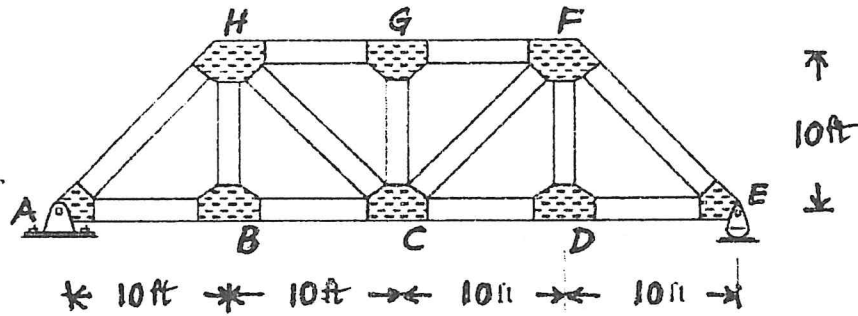

Fig. 12
7. (a) Draw the influence line for the force in member CF, GF, BC, and FD for the truss as shown in Fig. 12.